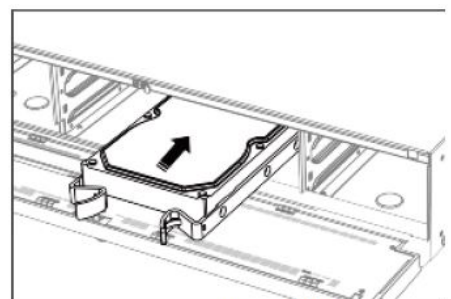

Figure 2-9 Insert HDD
STEP 3 Insert the HDD until it is firmly fixed. Refer to Figure 2-9